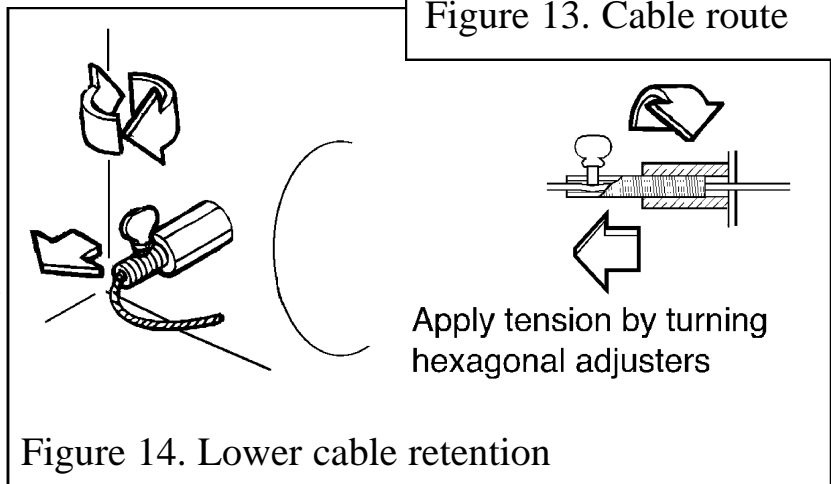

Figure 14. Lower cable retention
9. Pull each cable taut. Push the cable retainers hard up against the back panel. Tighten the screws in the retainers so that they clamp the cables in position. Apply tension to the cables by turning the hexagonal adjusters by hand (See figure 14).